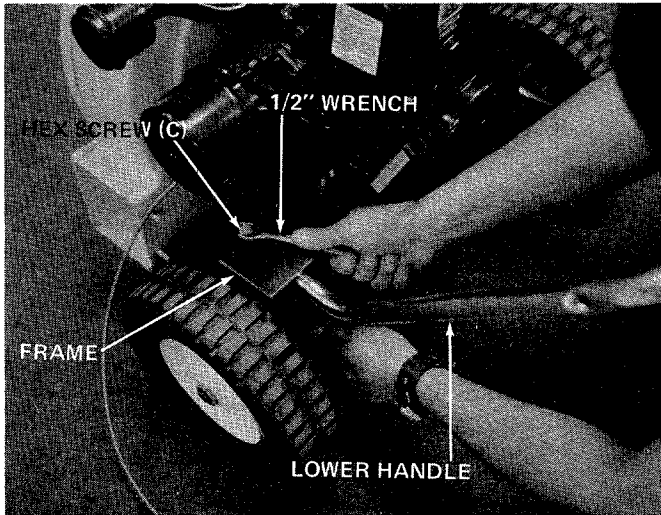

FIGURE 3
- Secure lower handle to frame with two hex screws (C), lock washers (D) and hex nuts (E). See figure 3. Two 1/2" wrenches are required.